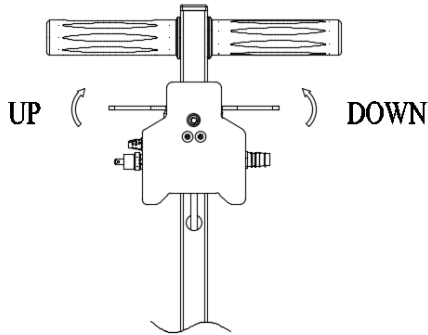
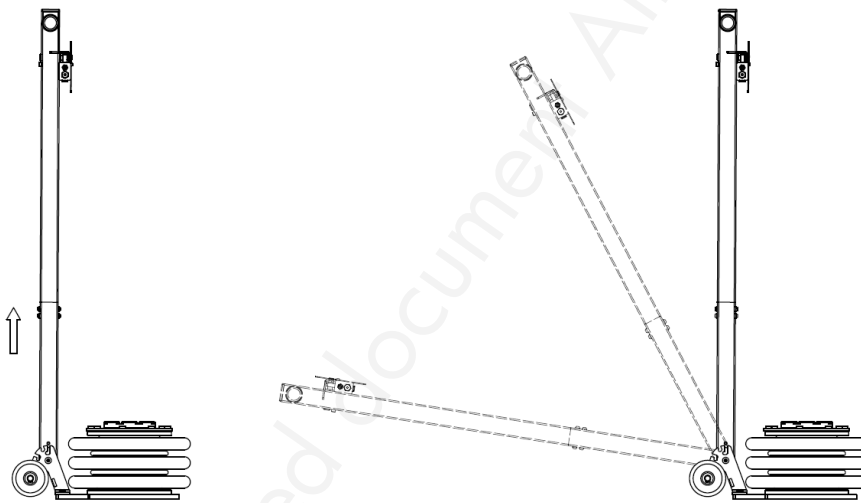

Figure 5
Figure 6
1. (PBK302L) Operation instructions of handle assembly: pull up the handle assembly to make the limit pin at the bottom of it leave the limit groove (see figure 6), then move the handle assembly up or down to make it can be settled into any of the three gears (see figure 6). When reaches the corresponding angle, press down the handle assembly to make the limit pin slide into the limit groove.
1. Lifting and lowering operation instructions: after the switch assembly is connected with air, press "up" side on the switch (see figure 5, left), and balloon jack will start to rise. After releasing the hand, the switch will automatically reset and balloon jack will stop rising. When press "down" side on the switch (see figure 6, right), balloon jack will start to lower. After releasing the hand, the switch will reset automatically and the jack will stop lowering.
2. Shift operation instructions of handle assembly (model PBK302L): pull up the handle assembly to make the limit pin at the bottom of it leave the limit groove, then move the handle assembly up or down to make it can be settled into any of the three gears (see figure 6, right). When reaches the corresponding angle, press down the handle assembly to make the limit pin slide into the limit groove.